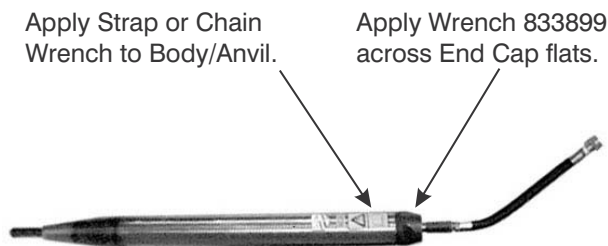

Figure 8-2. Loosening the End Cap.
1. Place the Hole-Hog on a level surface. Holding the body/anvil (1) with a strap wrench, use wrench P/N 833899 from the Tool Kit to loosen the End Cap (15). It may be necessary to strike the wrench handle several times with a hammer to loosen the End Cap. Refer to Figure 8-2.